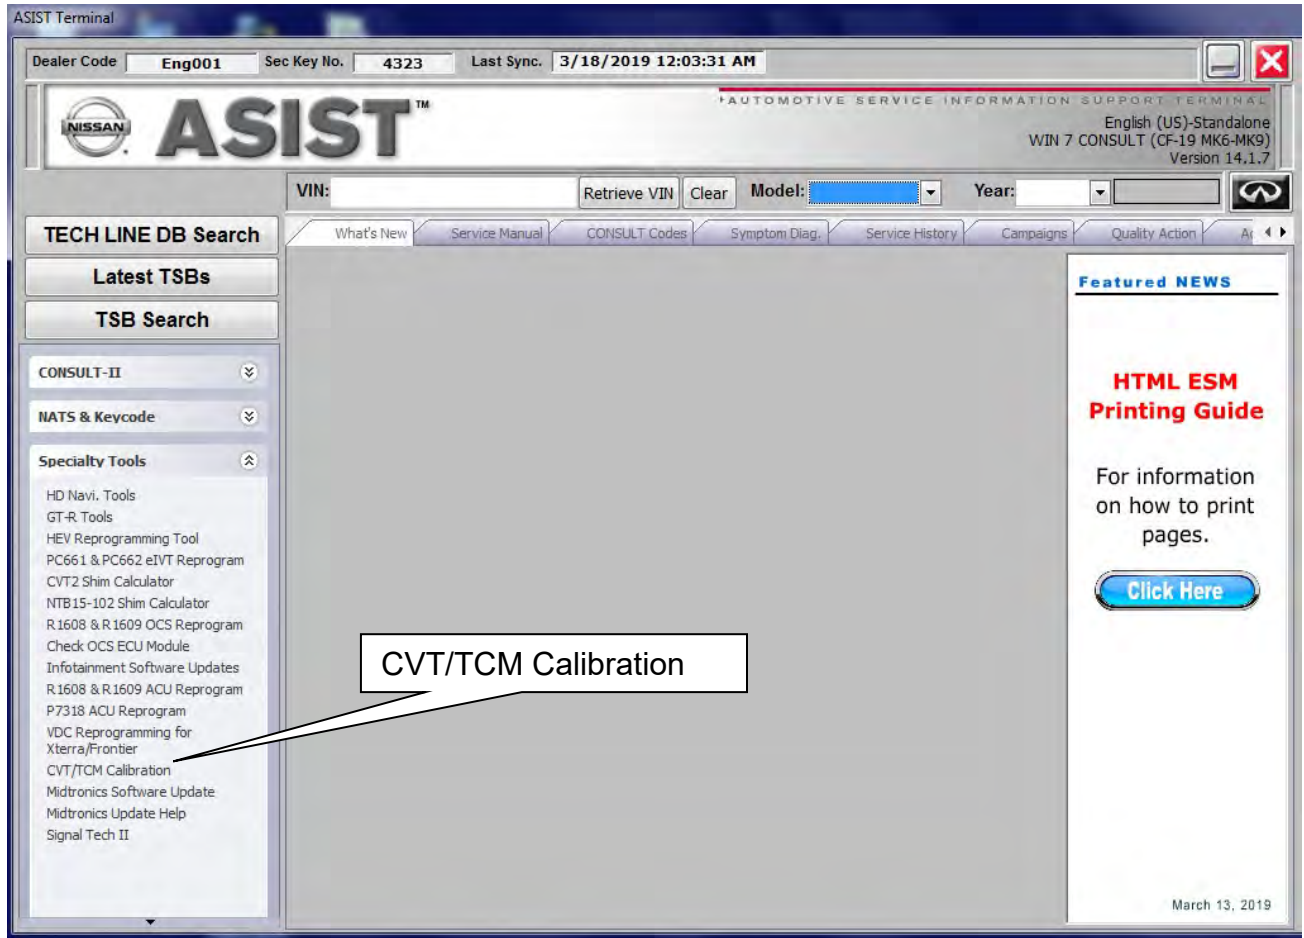

Figure 1
1. Open ASIST and click on Specialty Tools, then click on “CVT/TCM Calibration” as shown in the Figure 1, below.